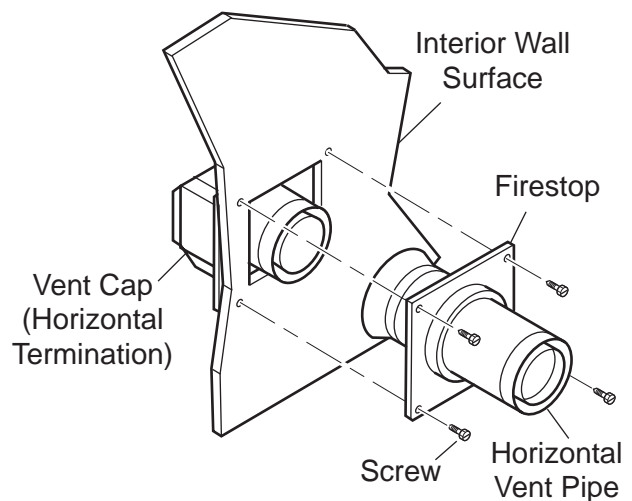

Figure 20 - Installing Firestop on Horizontal Vent Pipe
5. Slide the firestop over the vent pipe before connecting the horizontal run to the vent cap. See Figure 20.
7. Slide the firestop against the interior wall surface and attach with screws. See Figure 20.